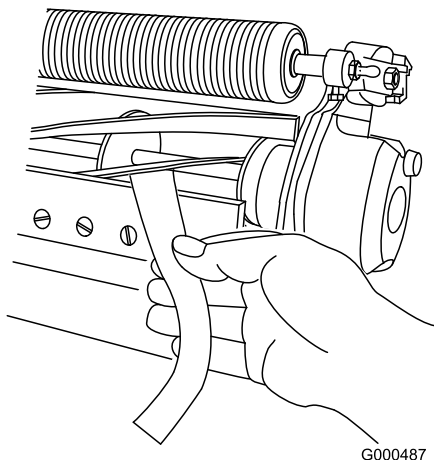

Figure 7
1. Bedbar adjusting screw (2)
- B. Insert a long strip of cutting performance paper between the reel and bedknife, perpendicular to the bedknife (Figure 7), then **slowly** rotate the reel forward; it should cut the paper; if not, repeat steps A and B until it does.
11. Insert a long strip of cutting performance paper (Toro Part No. 125-5610) between the reel and bedknife, perpendicular to the bedknife (Figure 7), then **slowly** rotate the reel forward; it should